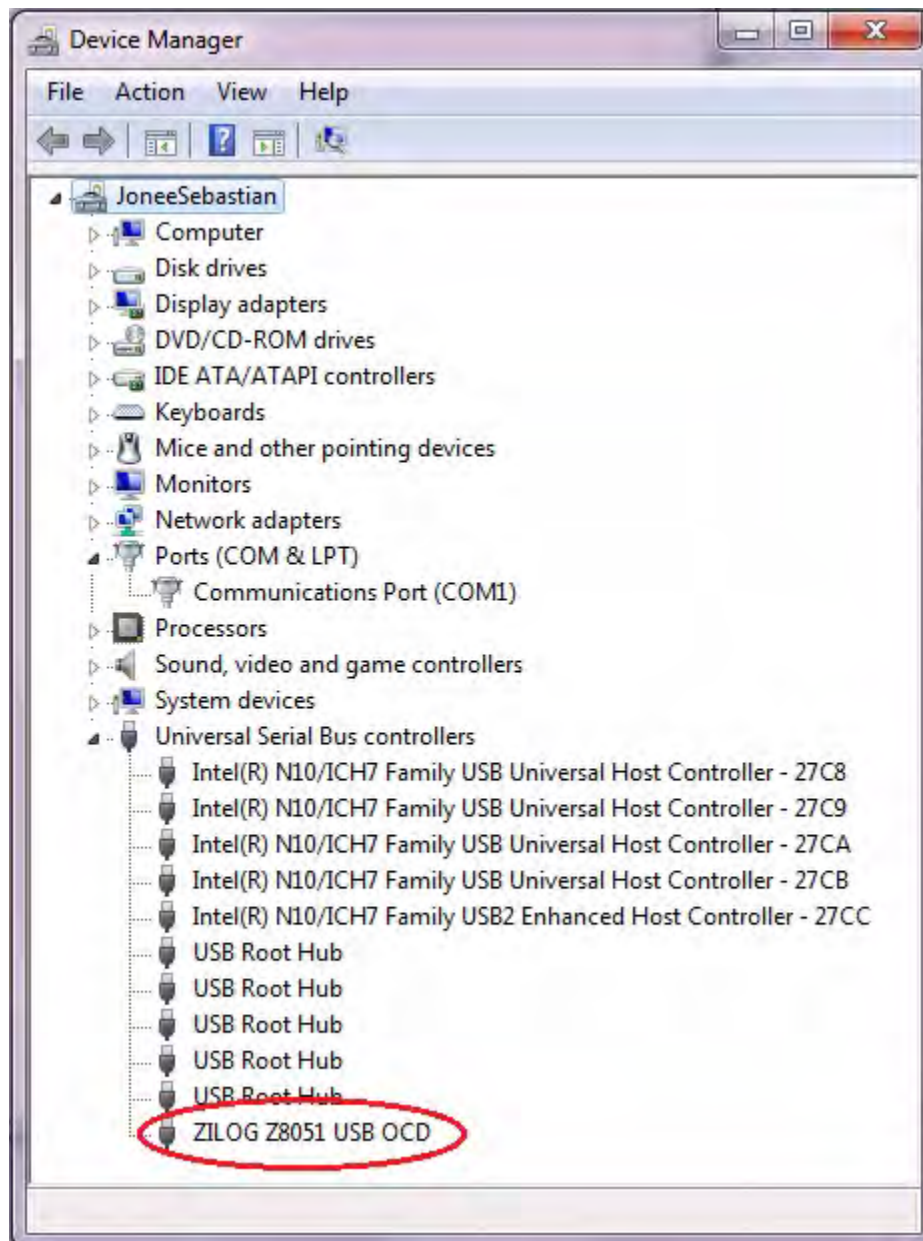

Figure 28. Device Manager Dialog, Windows 7
5. If *Zilog Z8051 USB OCD* appears in the Device Manager (as highlighted in Figure 28), the OCD driver software has been successfully installed.